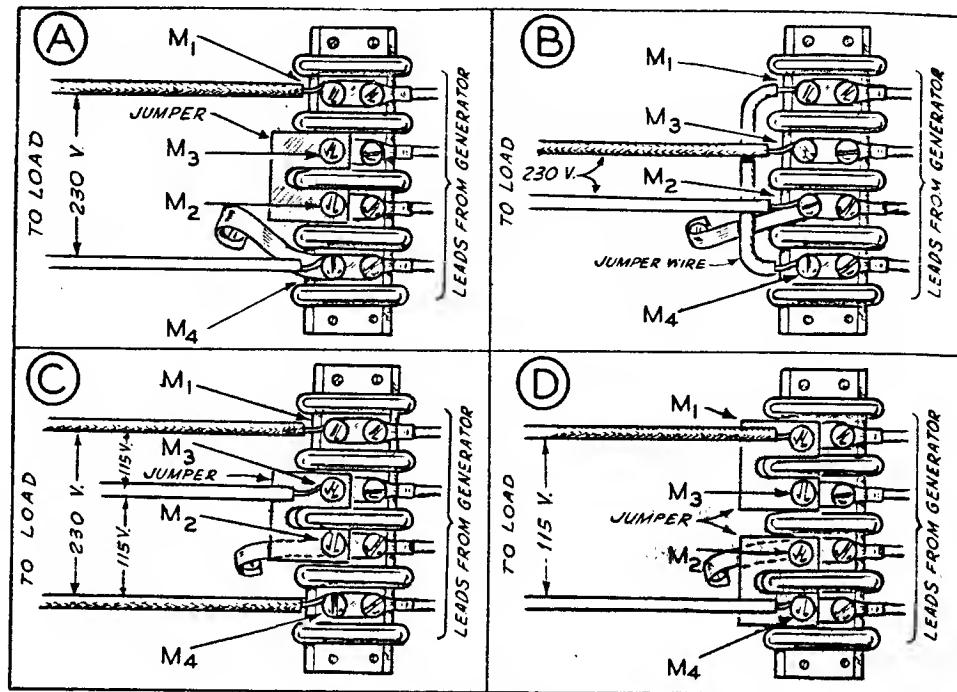

Fig. 8 Single Phase Plant
Load connections are to be made to terminals inside the terminal box on the side of the generator. These load terminals are marked M1, M3, M2, and M4 from top to bottom. When the plant is shipped, two heavy jumper bars are connected across terminals M3 and M2. This jumper connection provides for two 115 volt circuits (with 1/2 the plant capacity available on each separate circuit), or one 230 volt circuit. Refer to C, Fig. 8. For 115 volt service, connect the black (hot) wires to the M1 and M4 terminals, and the white (ground) wire to the M2 or M3 terminal. Remember that **ONLY ONE HALF** the rated capacity of the plant will be available on either of the two separate 115 volt circuits. The two black wires will give 230 volt ungrounded service.
If the full rated capacity of the plant at 115 volts **ON ONE CIRCUIT ONLY**, is desired, remove the two jumper bars from across terminals M3 and M2. Reconnect the jumper bars, one across terminals M1 and M3, and the other jumper across terminals M2 and M4. Connect the black (hot) load wire to the M1 terminal, and the white (ground) wire to the M4 terminal. Refer to D, Fig. 8.
If 230 volt current only is to be used, and **NEITHER** load wire is white (grounded), leave the jumpers connected across terminals M3 and M2. Connect load wires to terminals M1 and M4. Refer to C, Fig. 8.
A. Remove the two jumper bars connecting terminals M3 and M2, temporarily. Disconnect the short grounding wire from the M2 terminal and connect it to the M4 terminal. Reconnect the jumper bars across terminals M3 and M2. Connect the black (hot) load wire to the M1 terminal, and the white (grounded) load wire to the M4 terminal. Refer to A, Fig. 8.
B. Remove (and save for possible future use) the two jumper bars connecting terminals M3 and M2. Using a short length of #10 or larger wire, connect terminals M1 and M4 together. Connect the black (hot) load wire to the M3 terminal, and the white (grounded) load wire to the M2 terminal. Refer to B, Fig. 8.
Be sure the jumper connections are properly made, as explained under VOLTAGE SELECTION, SINGLE PHASE PLANT. Connect the load wires to the proper terminals as shown, according to the jumper connections made, Fig. 8.
Some early plants with SPEC designation ending in the letter "A" were not internally grounded. If inspection shows that there is no ground jumper wire between the M2 terminal and a grounding screw inside the terminal box (Fig. 8), a similar ground connection must be made. Run a short length of No. 10 wire between the battery negative terminal and the M2 terminal, if 115/230 volt service is to be used. If grounded 230 volt service is to be used, connect the ground jumper to the M4 terminal, instead of to the M2 terminal. BE SURE THIS GROUND JUMPER WIRE IS PRESENT IN ALL CASES WHERE USING AUTOMATIC CONTROL EQUIPMENT.